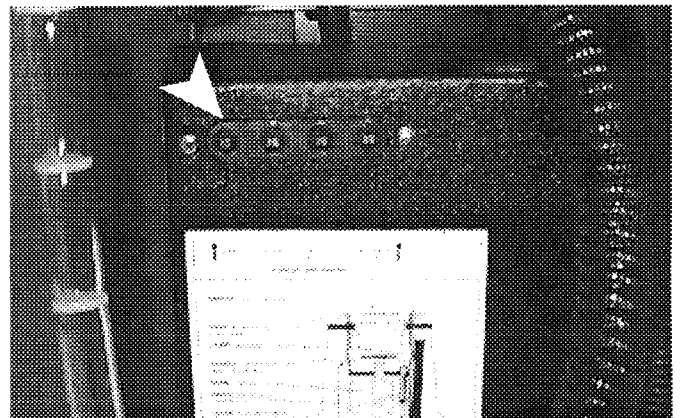

FIG. 2
1. Turn all switches to the "OFF" position and pull out the "MAIN" circuit breaker button. SS2701 & 3301 model shown. (Figure 2)